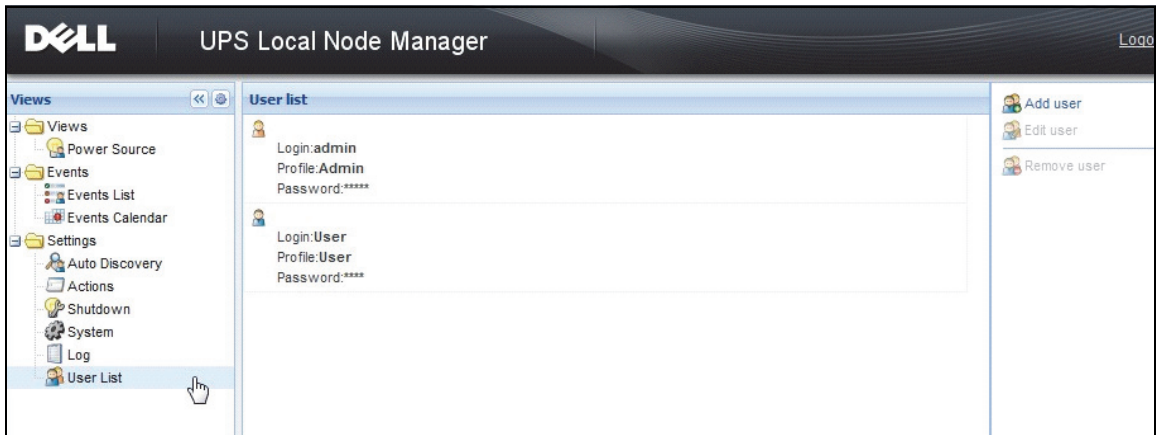

Figure 36. User List Page
- 2 Select **Settings > User List**. The User List page is displayed (see Figure 36).